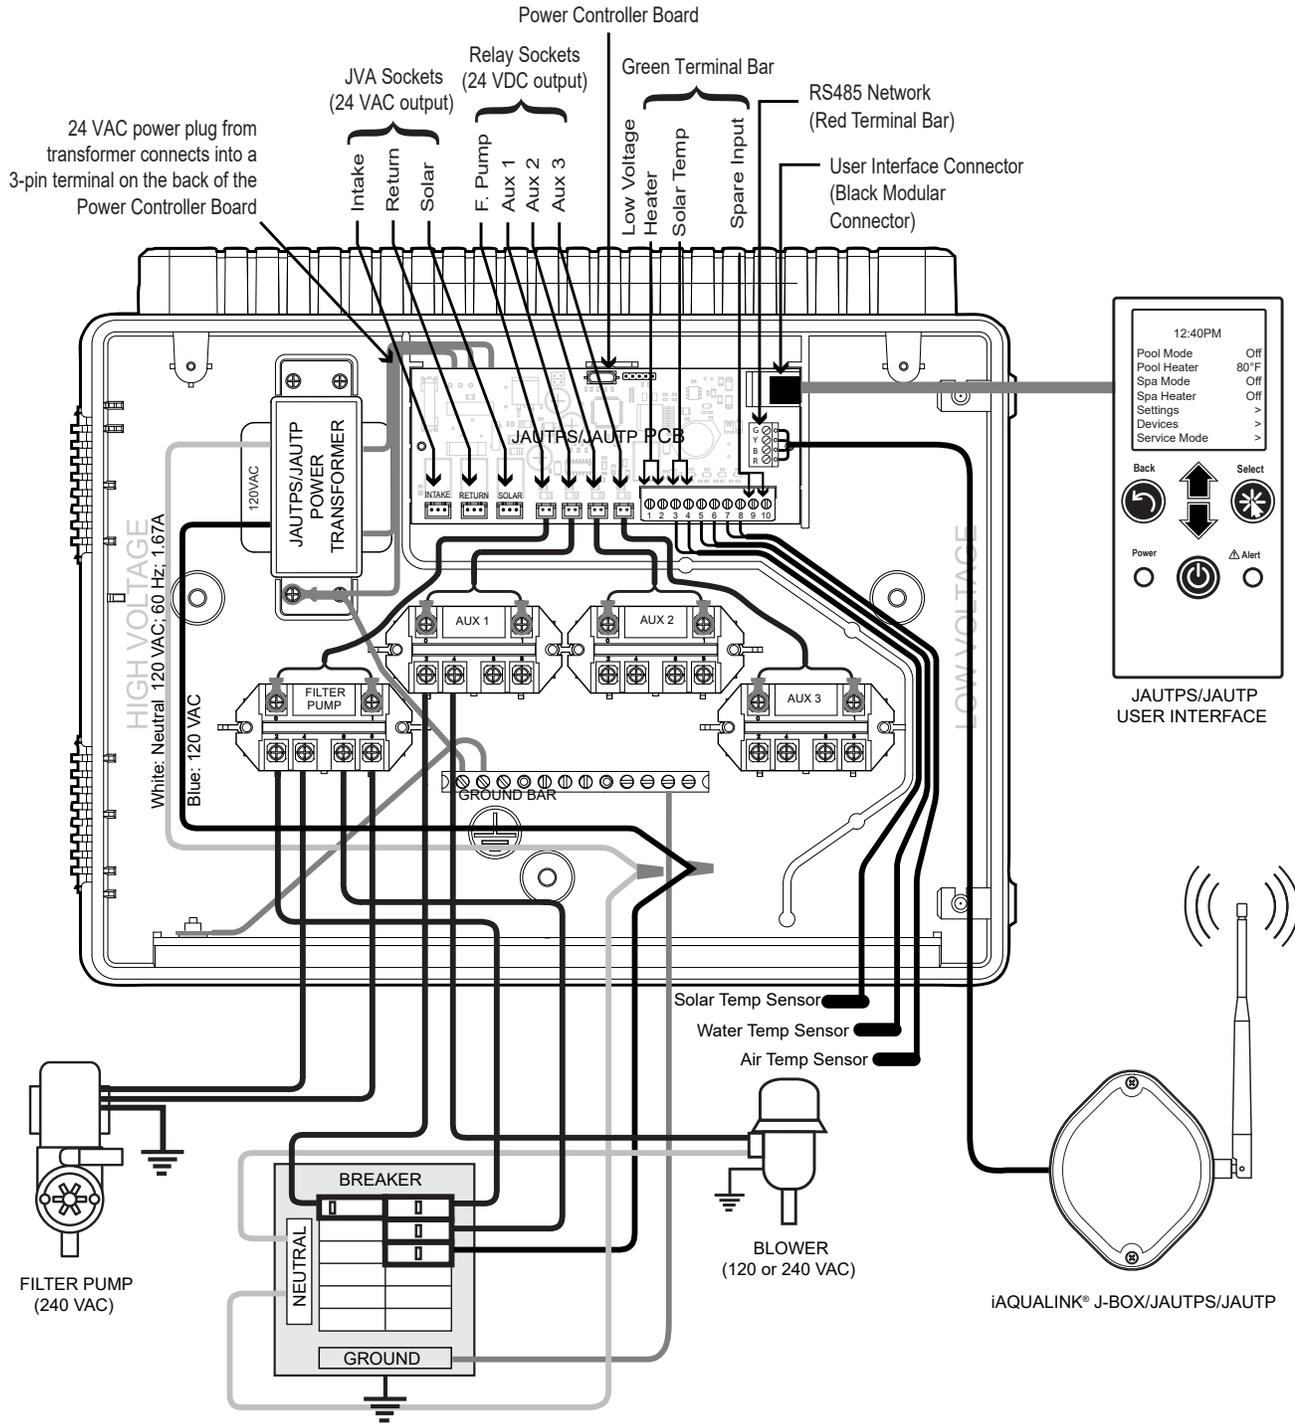

FIGURE 2. JAUTPS/JAUTP ELECTRICAL WIRING DIAGRAM
NOTE: See Figure 2. JAUTPS/JAUTP Electrical Wiring Diagram for specific wire locations and connections.
Wire the temperature sensors on the 10-pin green connector (see Figure 2. Wiring Diagram). The air temperature sensor is factory-installed on the 10-pin green connector (pins 7,8). The water temperature sensor and necessary installation hardware is included.
If there is additional low voltage equipment installed, such as low voltage heating, wire to pins 1 and 2 on the 10-pin green connector (see Figure 2. Wiring Diagram).
Wire the iAquaLink JAUTPS/JAUTP device on the red RS-485 connector (see Figure 2. Wiring Diagram).
5. Plug JVAs in as shown in Figure 2.Wiring Diagram.